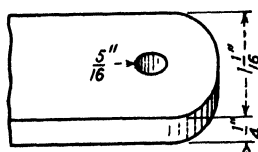

Fig. 322.
93. Find the strength in tension and bearing of the cast-iron lug shown in Fig. 322.